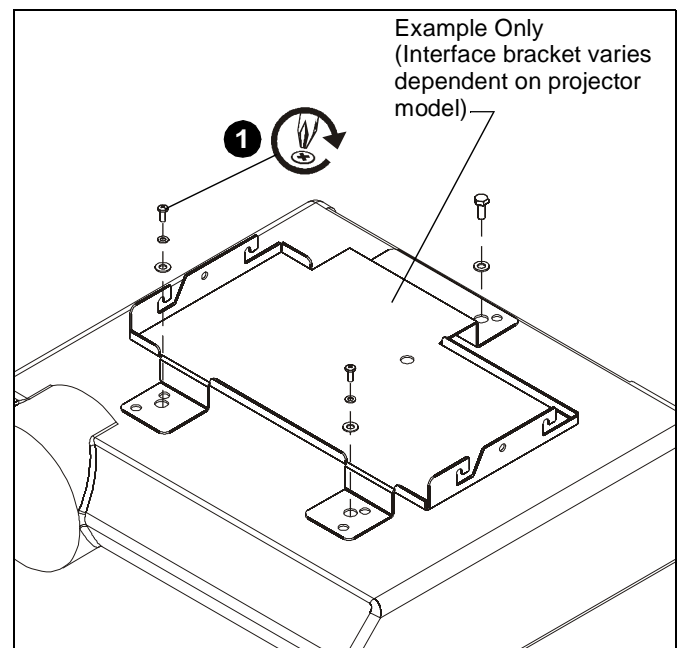

Figure 2
1. Secure interface bracket to VCM using installation instructions and hardware provided with interface bracket. ((Siehe Abb. 2))